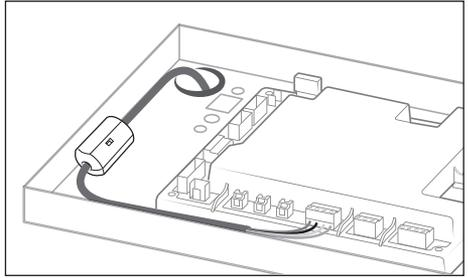

Figure 25. Install Ferrite
- To reduce electromagnetic noise, near the RS-485 connector install a snap on ferrite to the RS-485 cable, see Figure 25.
NOTE: When the heater is powered by 120 VAC, to reduce electromagnetic noise, run the RS-485 cable through a snap-on ferrite close to the RS485 connector, as shown in Figure 25. Contact Fluidra customer service for a ferrite kit (PN# R1029700), provided free of charge. (Ferrite specs: Fair-Rite PN# 0431164281).